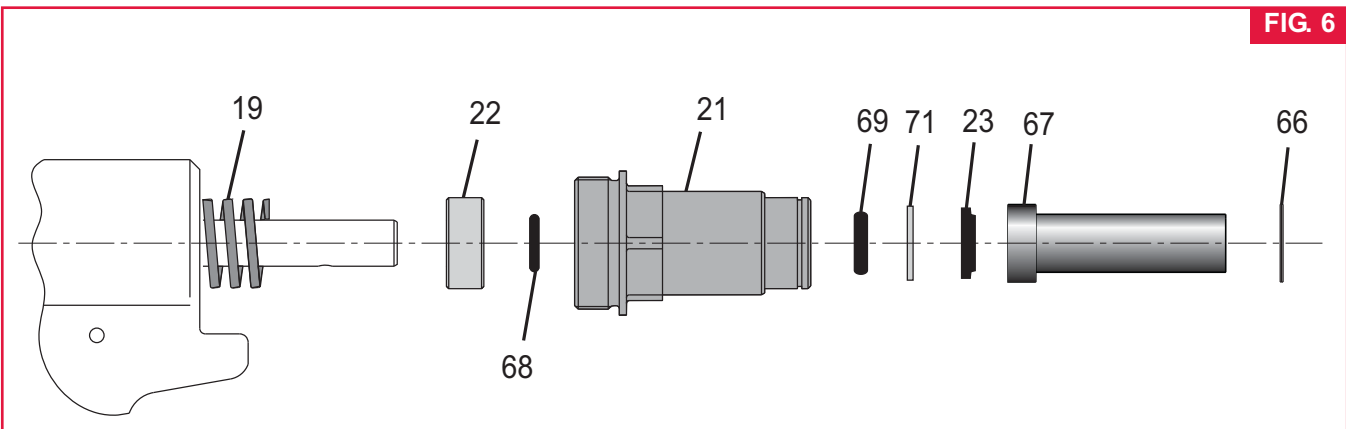

FIG. 6
1. Reaching through window of Pintail Bottle (24) remove Retaining Ring (62) and Washer (63).
2. Remove Pintail Bottle (24).
3. Disconnect tube from Plug & Gasket Assy (54).
4. Remove Adapter (64) and Tube/ Slide Assy (70).
5. Remove End Cap (21) and Spring (19) (Fig. 6).
6. Remove Spacer (22) and O-Ring (68) from spring side of end cap.
7. From bottle side of end cap, remove Retaining Ring (66), Tube (67), Wiper Seal (23), Washer (71) and O-Ring (69).
(Refer to Figures 6 & 15)
1. Assemble Adapter and Tube/Side Assembly (70) and new O-Rings (65).
2. From bottle side of End Cap (21) install O-Ring (69), Washer (71), Wiper Seal (23), Wiper Housing (67) and Retaining Ring (66) as shown in (Fig. 6).
3. From tool side of end cap install O-Ring (68), Spacer (22) and Spring (19). (as shown in Fig. 6) Screw entire assembly into head and tighten.